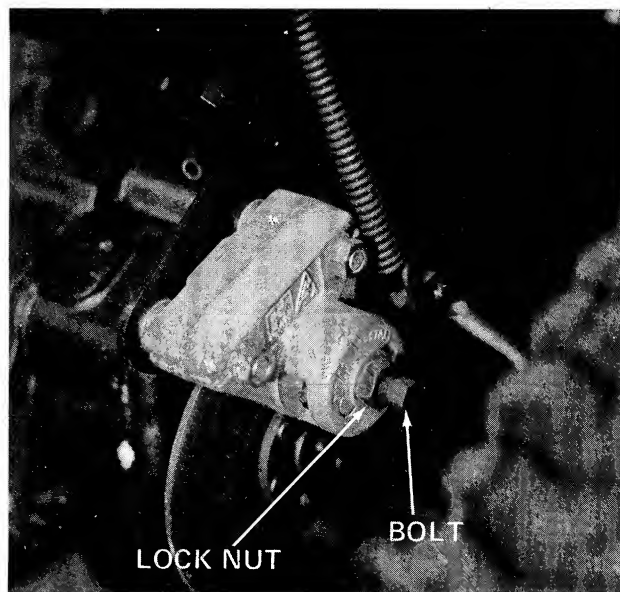

FIGURE 10
1. Loosen the lock nut. See figure 10.